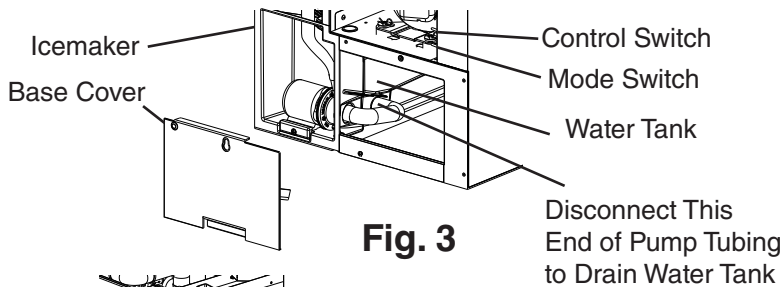

Fig. 3
- 1) Move the control switch to the "OFF" position. Make sure the power supply is off to the icemaker. If not already removed, remove the top panel and control box cover. Note: For **KM-322_522_622MAK** also remove the base cover. See Fig. 3. If front access to the control box is required, remove the control box mounting screws, then slide the control box forward and rotate the control box for access. See Fig. 4.